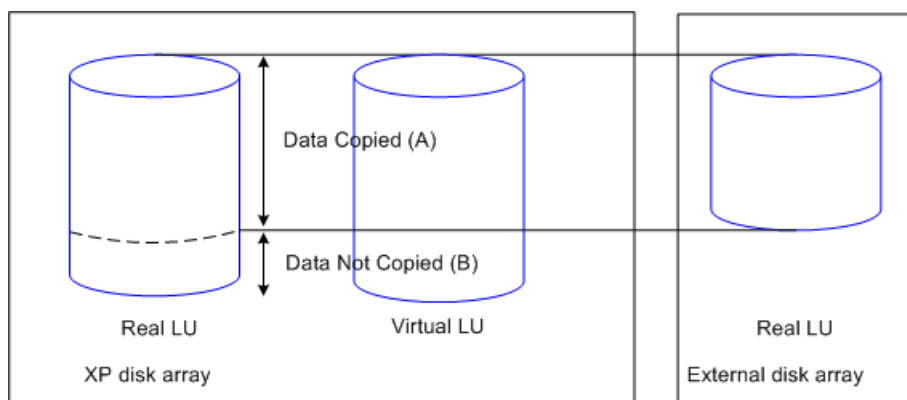

Figure 386 Data copy range of copy processing for Flex Copy
Figure 386 shows the range of data copied when the capacity of the real LU of the external disk array is less than that of the XP disk array. In this case, Flex Copy uses the capacity (A) of the external LU as the data copy range for copy processing. Data stored in the range above the capacity (B) of the real external LU is not copied.
In the example shown in Figure 386, if you copy data from the external disk array to the XP disk array, all data (A) in the external disk array is copied to the XP disk array. However, if you try to copy data in the reverse direction (that is, all the data (A + B) in the XP disk array to the external disk array), some XP disk array data (B) cannot be copied.